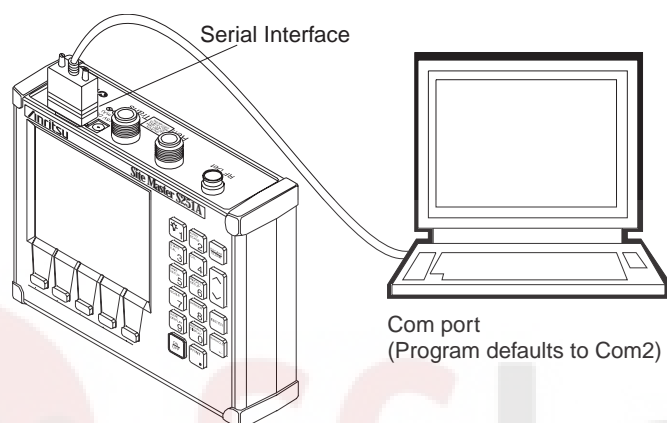

Figure 3-3. Equipment Setup for Site Master Tools Operation
- Step 1.** Connect the supplied cable as shown in Figure 3-3.